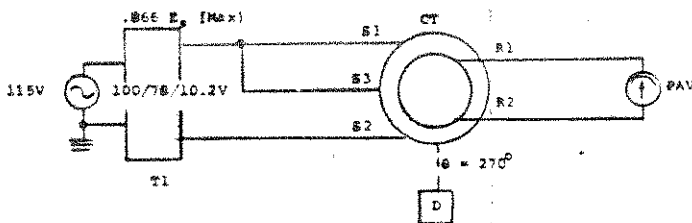

Figure 7-15. Phase Shift Test (CT)
- a. Set up equipment as shown in figure 7-15.